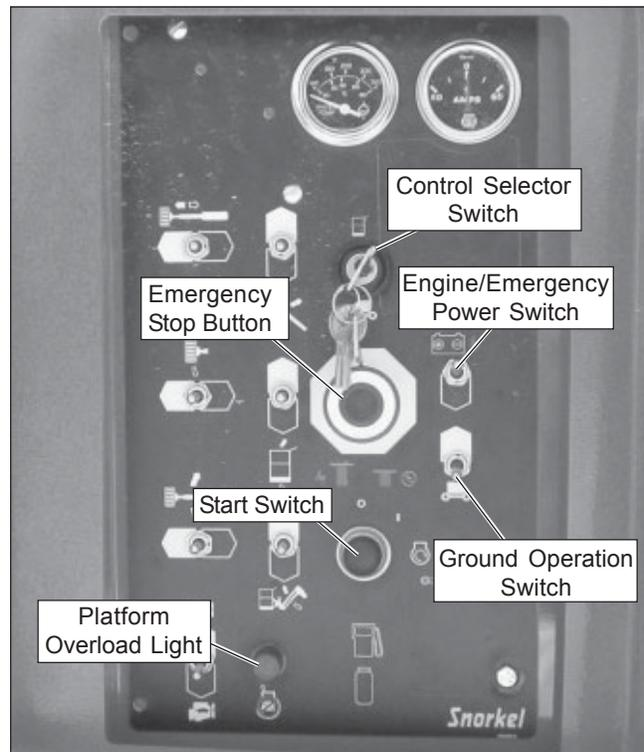

Figure 8.2 – Lower Controls
Use the following procedure to operate boom, turntable, or platform functions using the lower controls. Refer to Figure 8.2.
1. Pull the emergency stop button (refer to Figure 8.2) outward. Insert the key in the control selector and turn the switch to the lower control position.
If the overload exceeds rated platform capacity by more than 20 percent, the system will error out, stopping all boom and drive functions. The horn will then sound continuously and the red light will stay illuminated at the upper and lower controls (refer to Figure 8.2).